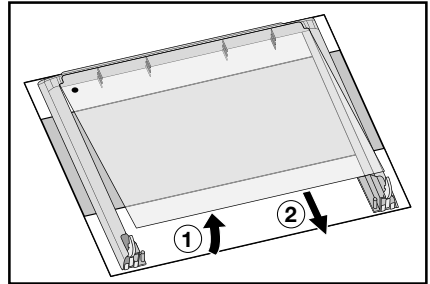

Fig. 31
11. Gently lift and carefully take off the innermost pane (Fig. 31).